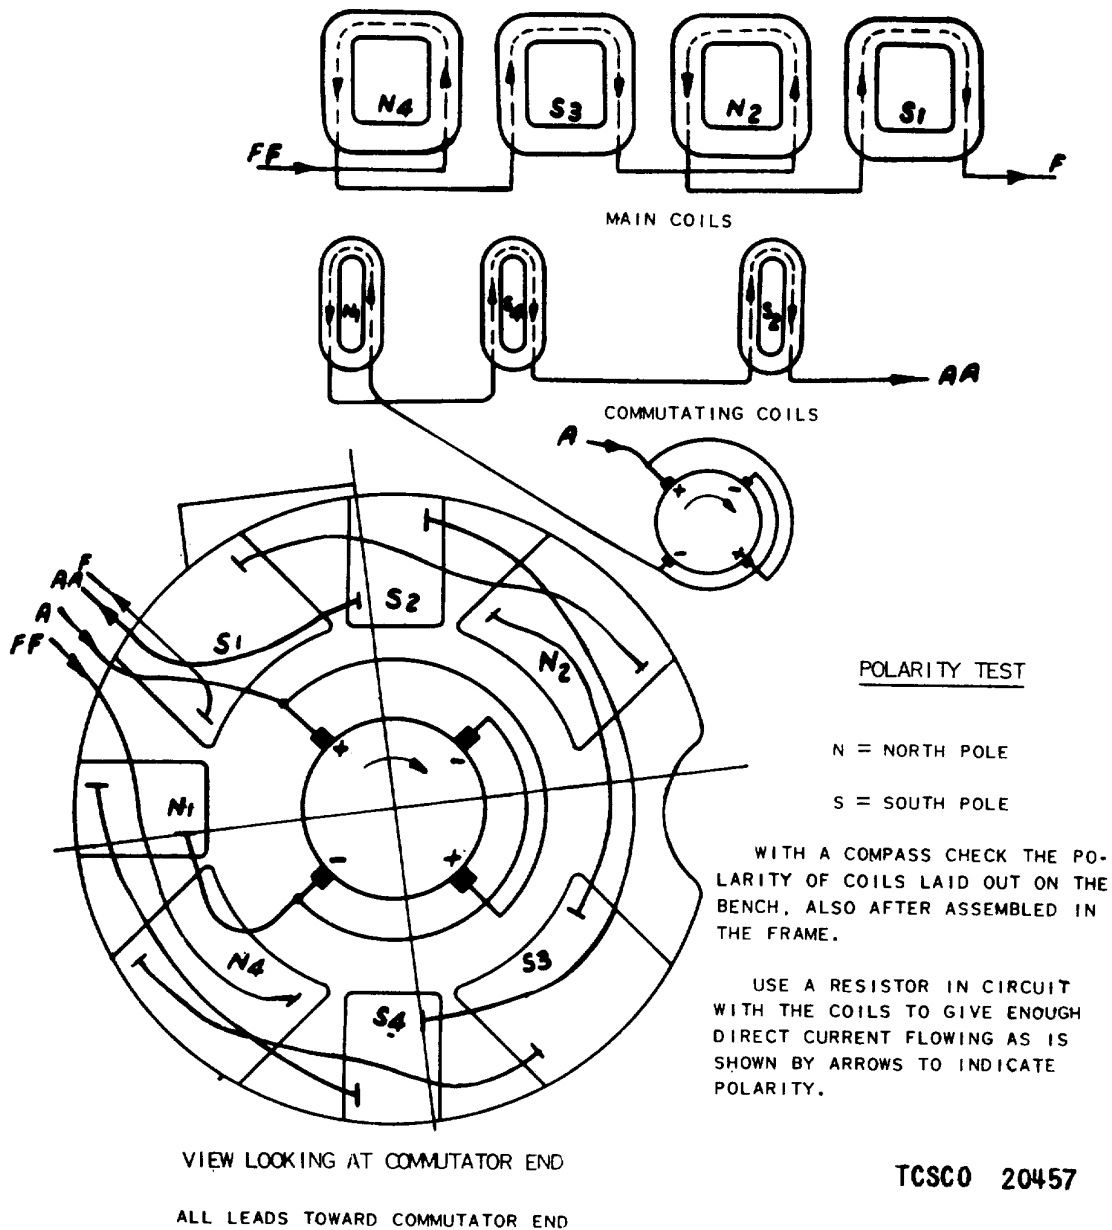

Figure 18. Traction motor field wiring diagram.
- (2) When replacing coil, the procedure should be the reverse of that just described and the following points should be carefully noted.
- (c) Make sure that the coil is turned right side up and right end to, when placing it in position. Check for proper polarity according to the field wiring diagram, figure 18.